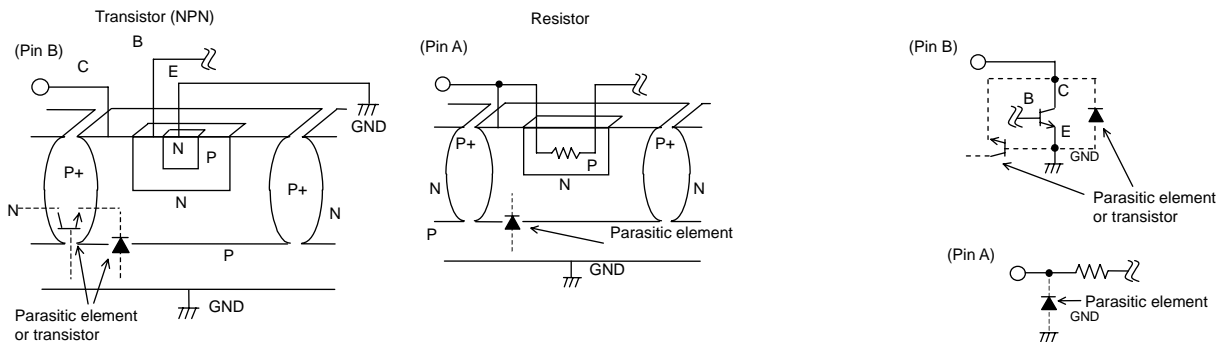

Fig.35: Example of the basic structure of a bipolar IC
2) This IC is bipolar IC that has a P-board (substrate) and P+ isolation layer between each device, as shown in Fig.35. A P-N junction is formed between this P-layer and the N-layer of each device, and the P-N junction operates as a parasitic diode when the electric potential relationship is GND > Pin A, GND > Pin B, while it operates as a parasitic transistor when the electric potential relationship is Pin B > GND > Pin A. Parasitic devices are intrinsic to the IC. The operation of parasitic devices induces mutual interference between circuits, causing malfunctions and eventually the destruction of the IC itself. It is necessary to be careful not to use the IC in ways that would cause parasitic elements to operate. For example, applying a voltage that is lower than the GND (P-board) to the input terminal.